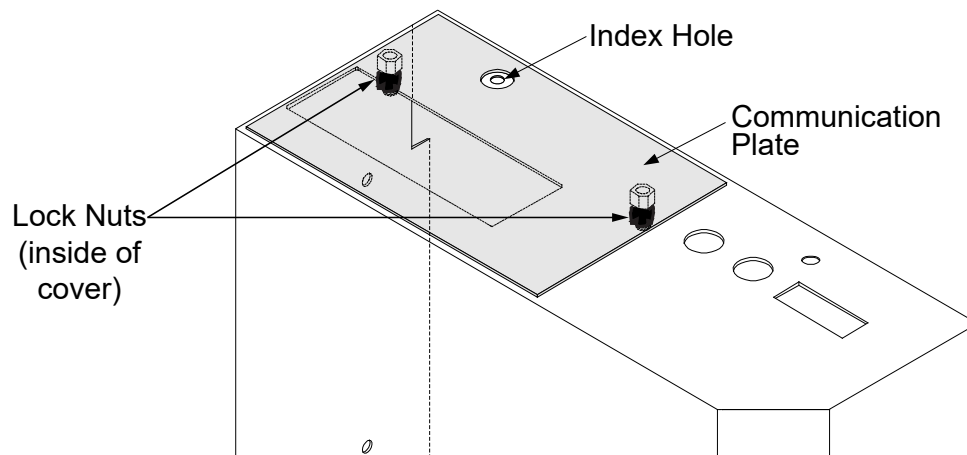

Figure 7-5 M-6200A Control Rear Cover, Communication Plate Orientation
1. Remove and discard the two lock nuts (Figure 7-5) from the inside of the rear cover; then remove the communication plate.
2. Insert the appropriate communication plate onto the top panel of the rear cover, ensuring that the index hole (Figure 7-5) is exposed.
3. Install the two lock nuts onto the communication plate's captive screws to secure the rear cover (Figure 7-5).